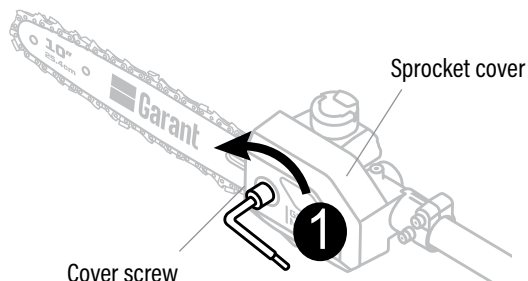

Fig. 7
4. Loosen the cover screw with the socket wrench provided and remove it from the sprocket cover (Fig. 7).